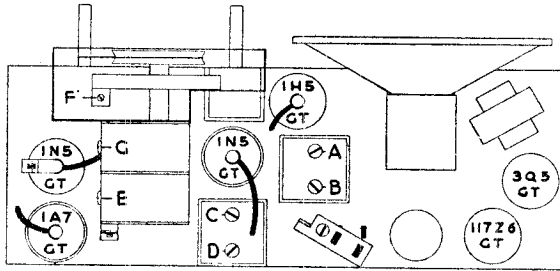

FIG. 1 TOP VIEW
NOTES: FIGS. 1, 2, 3 AND 4 SHOW SCHEMATICALLY THE SETTING UP AND AUTOMATIC TUNING OF PUSHBUTTON NO. 1. THE OTHER PUSHBUTTONS FOLLOW THIS PATTERN BUT AREN'T SHOWN FOR CLARITY OF DIAGRAM. FIG. 1 SHOWS THE SETTING UP OF PUSHBUTTON 1, WITH THE MANUAL AND NO. 1 BUTTONS DEPRESSED. THE PILOT LAMP WILL LIGHT, BEING ENERGIZED ACROSS THE 6-V. TAP THROUGH THE MOTOR WINDING (A), ROTOR PLATE X, CONTACT 1, AND THE PUSHBUTTONS. WHEN BUTTON NO. 1 IS ADJUSTED TO THE CORRECT FREQUENCY, THE PILOT LAMP GOES OUT BECAUSE CONTACT 1 IS THEN POSITIONED BETWEEN PLATES X AND Y, SIMILAR TO FIG. 3, WHICH BREAKS THE ELECTRICAL CONTACT. IN ORDER TO TUNE TO STATION 1 AUTOMATICALLY, PUSHBUTTON 1 IS DEPRESSED, ENERGIZING THE MOTOR ACROSS 18-7 AS SHOWN IN FIG. 2. SINCE THE (A) WINDING IS ENERGIZED, THE MOTOR WILL TURN PLATES X AND Y IN DIRECTION OF ARROW SHOWN UNTIL CONTACT IS BROKEN, WHICH WILL OCCUR WHEN PLATES REACH POSITION SHOWN IN FIG. 3. IF THE MOTOR DOES NOT STOP FAST ENOUGH, THEN PLATES X AND Y, WHICH ARE MECHANICALLY GANGED BY THE SHAFT TO THE TUNING CAPACITORS, WILL TURN TOO FAR, PUTTING THE STATION OUT OF TUNE BUT IF THEY DO ROTATE TOO MUCH THEY MUST ASSUME THE POSITION SHOWN IN FIG. 4 WHICH THEN ENERGIZES THE OTHER (B) WINDING OF THE MOTOR, REVERSING THE DIRECTION OF ROTATION UNTIL IT COMES TO A STOP AT ITS CORRECTLY TUNED POSITION SHOWN IN FIG. 3.
The first step to take in adjusting the electric push button device incorporated into this receiver is to choose eight (8) of the most powerful local stations, stations which are free from excess fading. Turn on the receiver (broadcast band) and press in the dial tuning button; tune in the station of the **lowest frequency**, using the station selector knob. Now hold the dial tuning button in and press in button number one (1). (See Figure 1). Both buttons are now locked into place; a small pilot lamp located at the rear of the chassis will light up unless the thumb screw at the rear accidentally happens to be correctly set. Loosen thumb screw number one (See Figure 2 for order of thumb screws) enough to allow it to slide freely back and forth until the light goes out. Now tighten the thumb screw; the adjustment for the first station is now complete. Out of the station call letter sheet supplied remove the proper station call disc and insert into the recess of button number one. Push one of the clear celluloid discs into the recess also, over the station call disc. Now release button number one by pressing the dial tuning button in as far as it will go.
NOTE: In the recesses of the white push buttons insert the words found in the call letter sheet as shown in Figure 1.